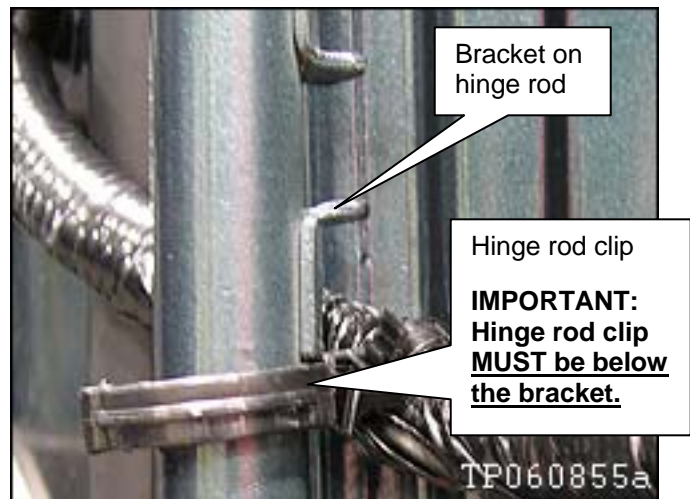

Figure B10
16. Attach the new hinge rod clip below the bracket as shown in Figure B10.
18. Make sure the hinge rod clip is below the bracket on the hinge rod (Figure B10 page 12).